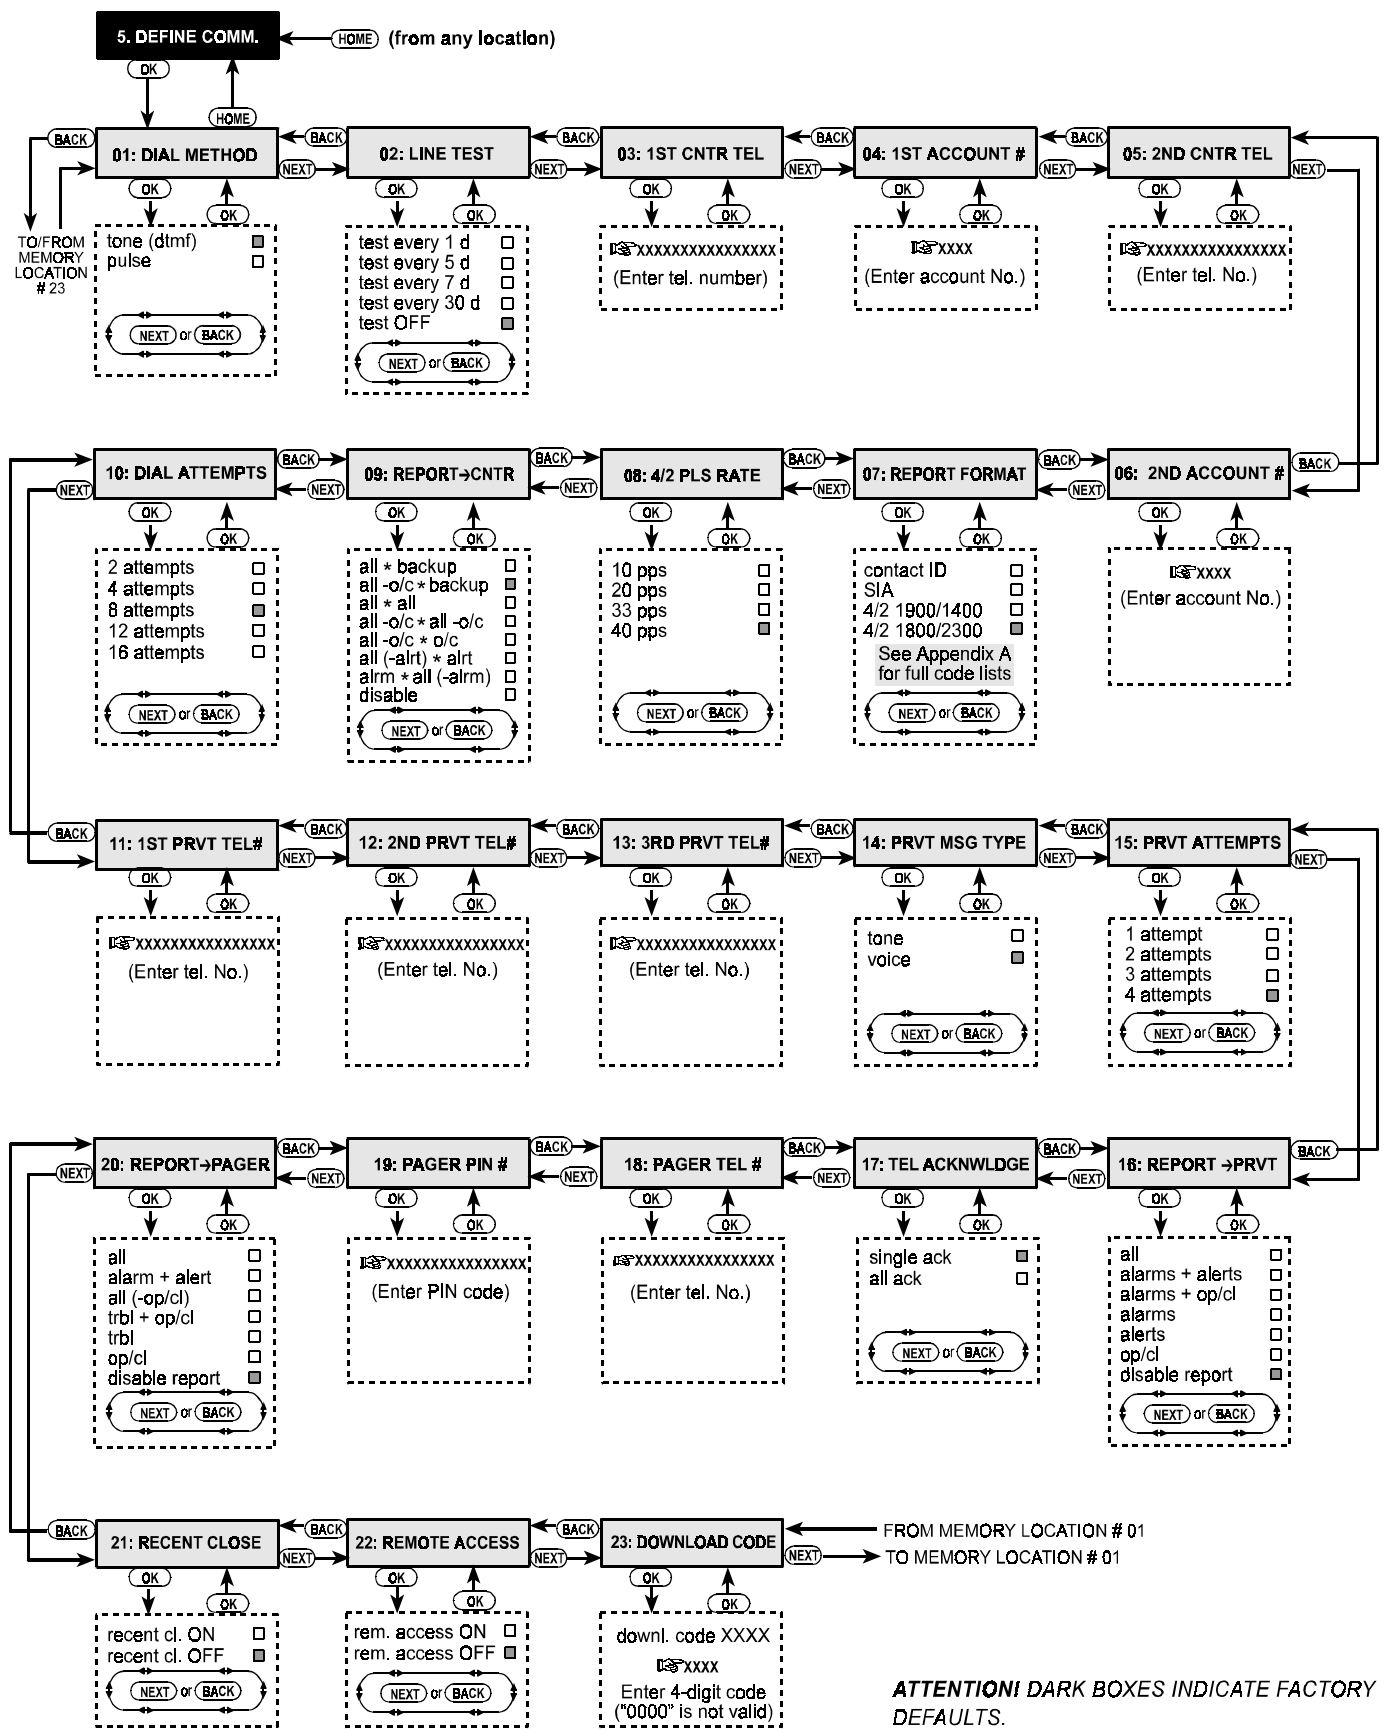

Figure 5. DEFINE COMM Flow Chart
Should you wish to get an overall view of the entire process, refer to the programming chart in Figure 5. You may even use the chart as your only guide along the programming process, instead of going through the written step-by-step procedure.
- Click **<NEXT>** or **<BACK>** until you reach the memory location you wish to access (see rectangles 01 to 23 in Figure 5).